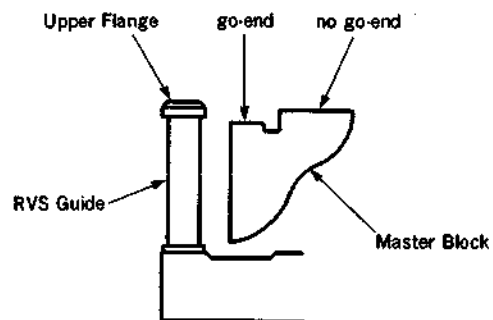

Fig. 4
- (6) Using a box screwdriver, turn the adjustment nut until the specification is satisfied. (Fig. 4)
- (7) Perform tape path alignment of Sec. 6.